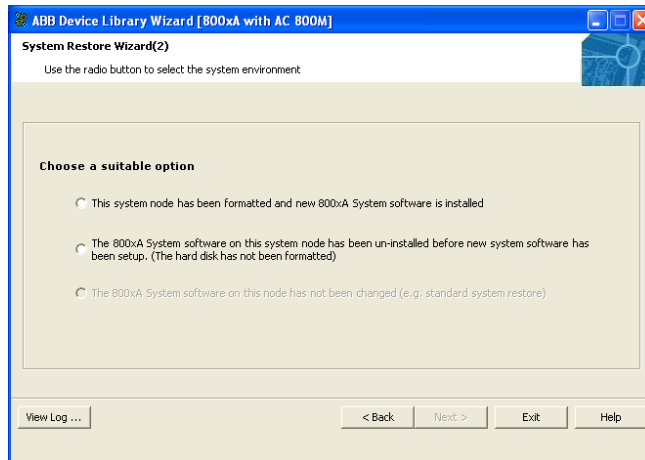

Figure 14. System Restore Wizard (2)
3. Choose whether or not this system node has been reformatted as shown in Figure 14 and click **Next**.
If the system node has not been reformatted (second option in Figure 14), all Device Types that exist in the 800xA System node and need updated are displayed in the